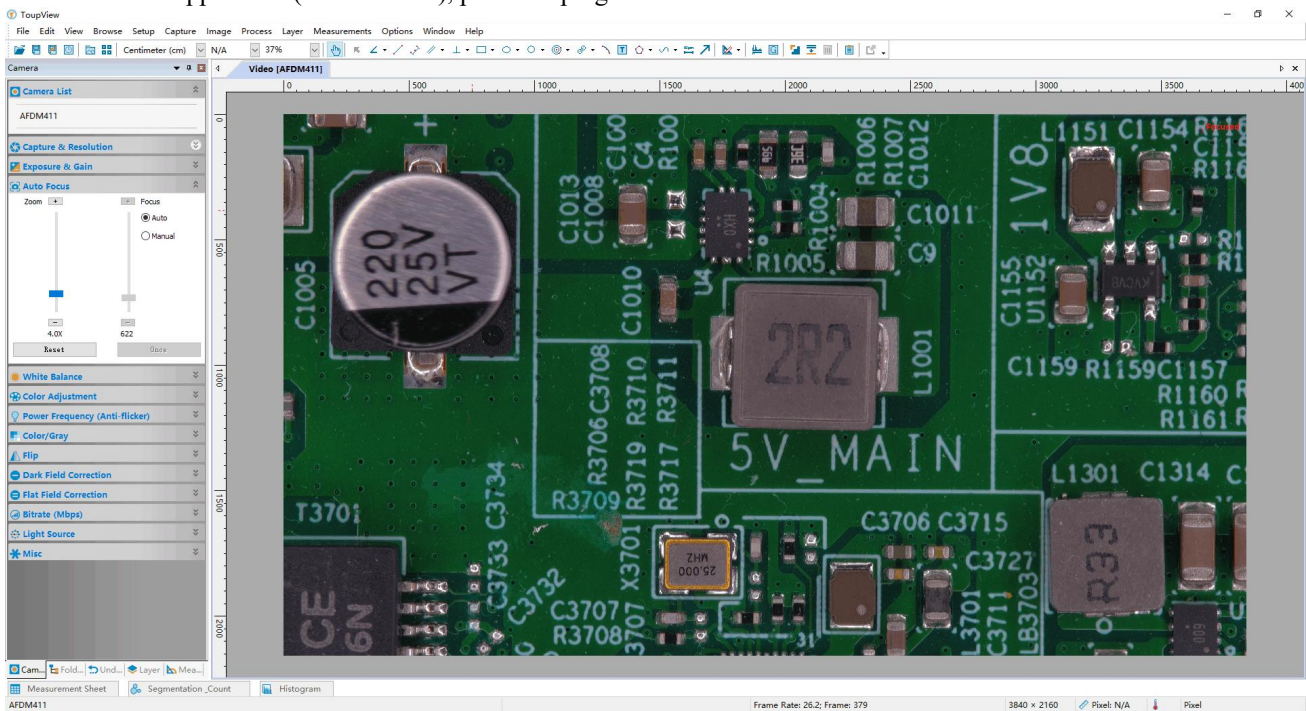

Figure 5-2 ToupView and AFDM411 Series Camera in USB Mode
- Install ToupView/ToupLite on your PC or install ToupView App on the mobile device; Run the software ToupView/ToupLite, clicking the camera name in the camera list n to start the live video as shown in Figure 5-2.
Active AFDM411 series camera is recognized by ToupView/ToupLite software or ToupView App and they are displayed as a camera list or thumbnail in the software or app as shown in Figure 5-2.